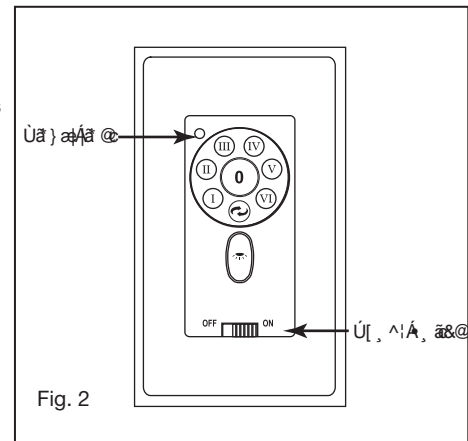

Fig. 2
2. Make wire connections from the fan to the receiver. For this step use the bundle of 5 wires on the receiver. (Fig. 2)
Remove the screws and take out the glass board from the light cover (Fig. 2), then attach the metal cover to the light cover B and light cover A with the screws provided. (Fig. 3)
- 4 Install the wall transmitter on the existing wall outlet box using the screws provided. Attached the wall plate with the mounting screws to finish the installation. (Fig. 2)
- 7 Signal light (Fig. 2)